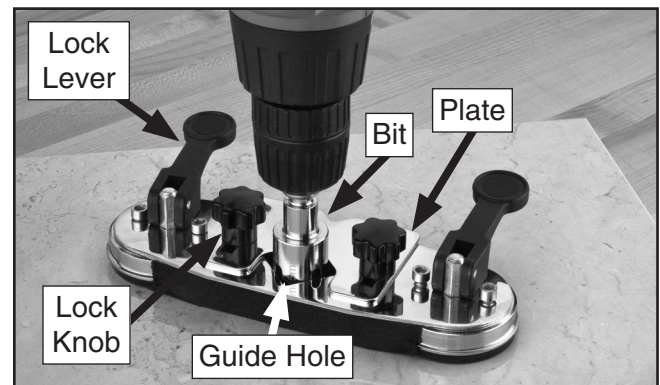

Figure 2. Model T10538 guide locked and setup for drilling.
1. Press the guide down, then flip the lock levers over to secure the guide, as shown in **Figure 2**.